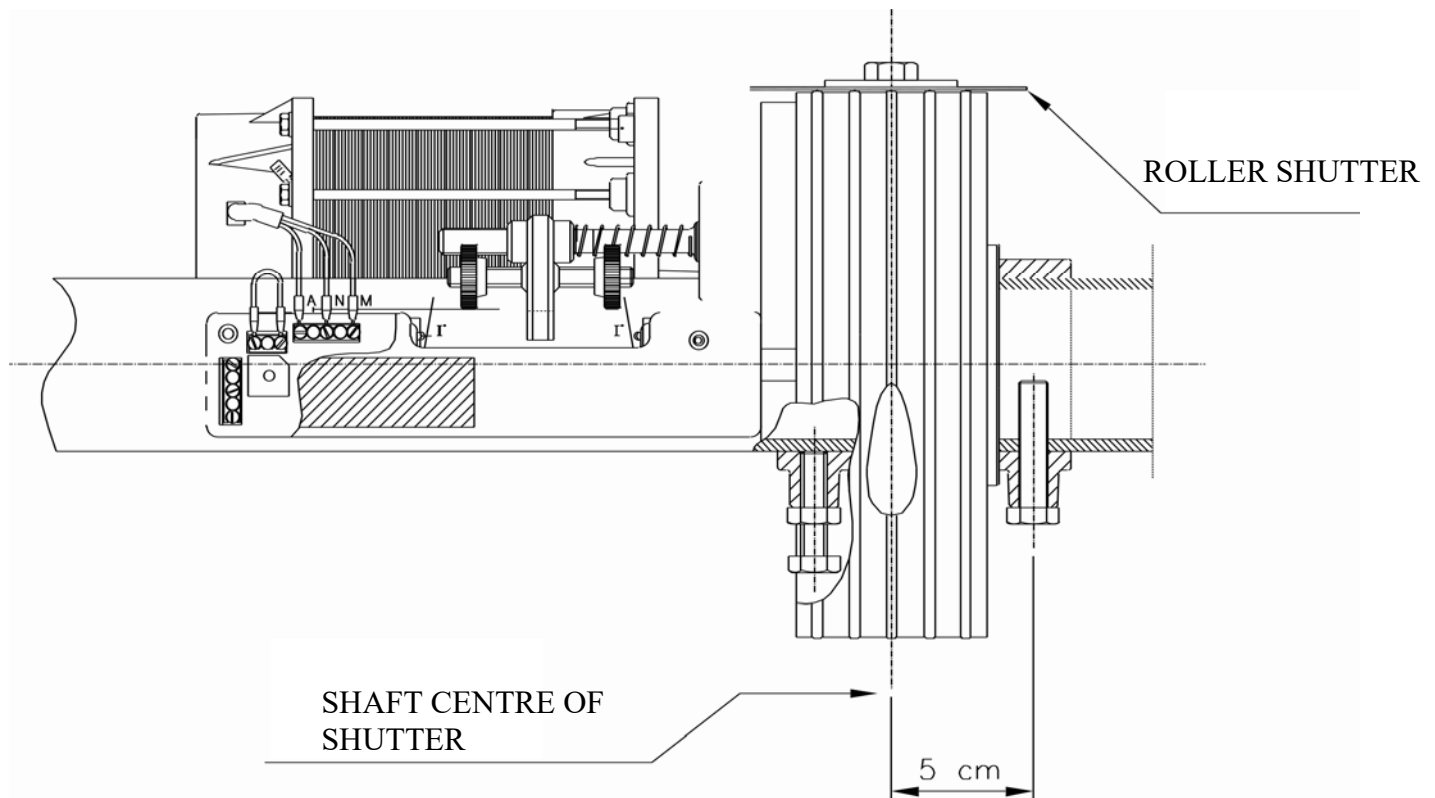

FIG. 1
- 1) Drill a 10 mm diameter hole 5 cm from the centre of the shutter's shaft (see **FIG. 1**);
- 13) Tighten by hand the gear by 1-1½ turns by bringing the grip towards microswitch 1 (down) fig. 1 (it must turn easily);
- 19) Should the shutter need to be installed contrary to the description in **FIG. 1**, the steps described above should be carried out to the contrary as microswitch 2 will stop the descent and microswitch 1 will stop the opening.